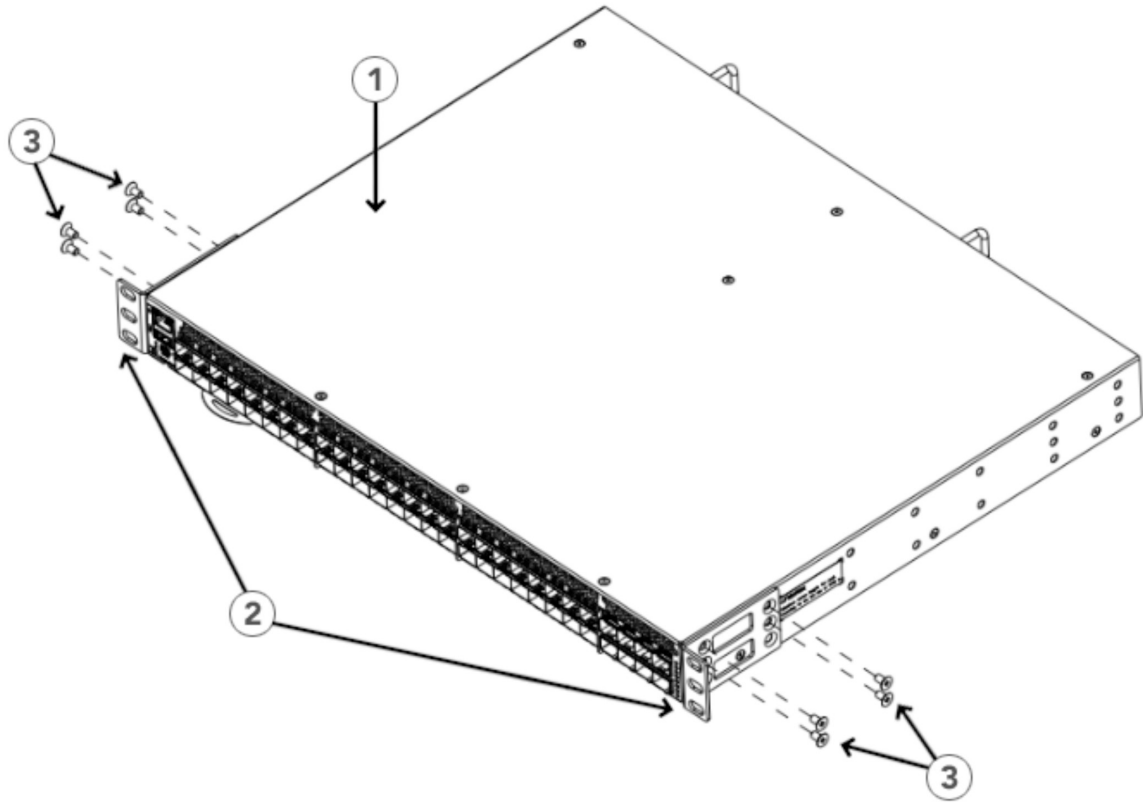

Figure 4. Attaching the Front Brackets
1. Position the right front bracket with the flat side against the right side of the device at the front of the device, as shown in Figure 4.